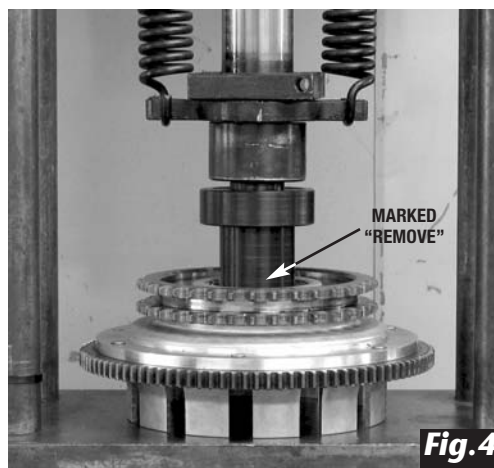

Fig. 4
7. Turn over clutch shell and place No.1 bearing remover tool with side laser marked "REMOVE" into bearing. Press bearing out of the clutch shell. See Fig 4.